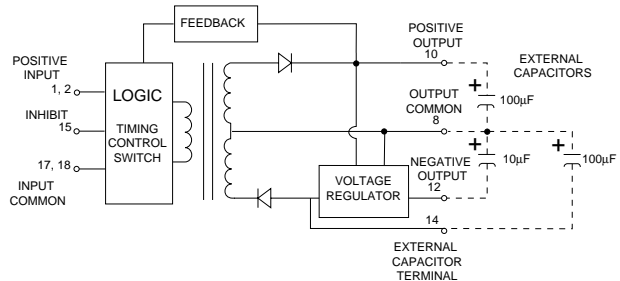

FIGURE 1: DUAL OUTPUT EXTERNAL CAPACITOR CONNECTIONS
- See Figure 1 for connection diagram